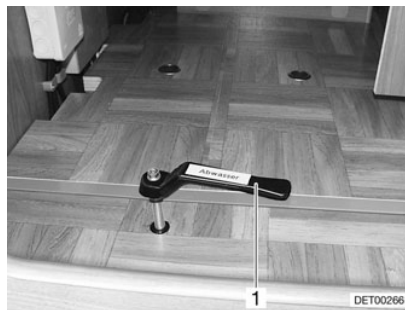
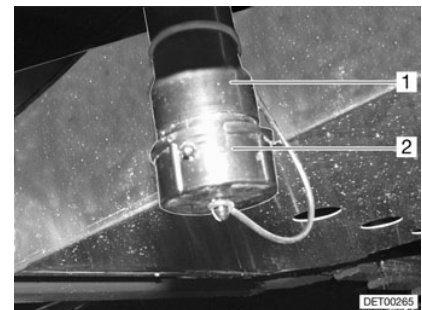

Fig. 85 Waste water tap
Fig. 86 Waste water drain neck
The waste water tap (Fig. 85,1) is fitted in the double floor, on the left side of the vehicle. The waste water tap can be accessed via the rear garage. The waste water tap is labelled with the word "Abwasser" (waste water). A hose line can be connected to the drain neck (Fig. 86,1).
- Unlock and remove the cap (Fig. 86,2) from the waste water drain neck (Fig. 86,1) by turning it a quarter turn in a clockwise direction.
- Open the waste water tap (Fig. 85,1). The waste water will run out.